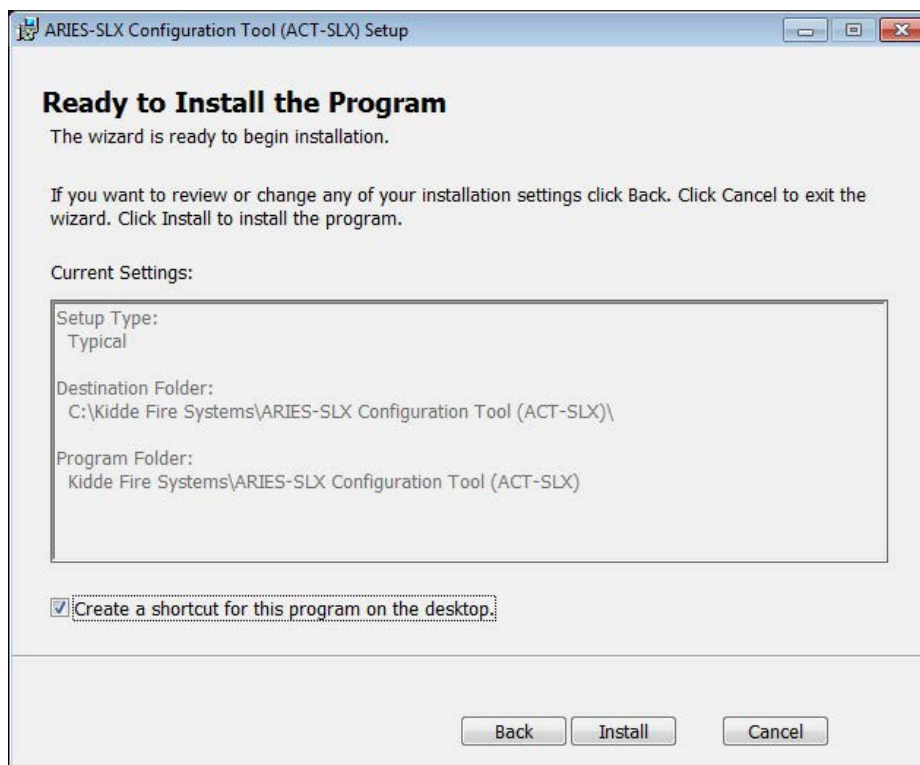

Figure 1-2. Ready to Install Screen
6. The Ready to Install the Program screen displays (Figure 1-2). Setup automatically defaults to place the program in the C: drive. Click on the **<Install>** button to continue with installation.